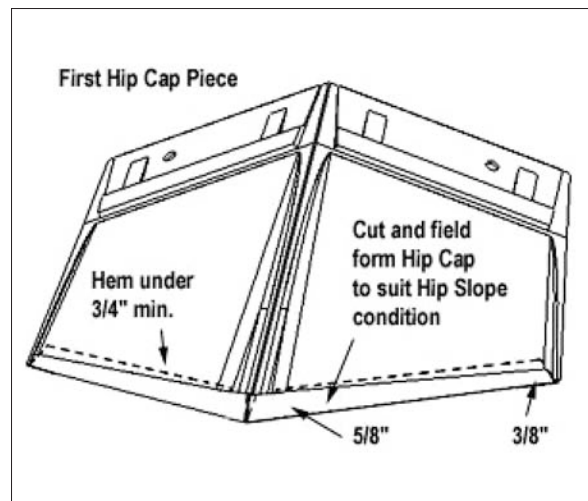

FIGURE 1-29 Custom Fabricated Hip Cap
1. Take the first piece of Hip/Ridge Cap and along the center, fold or crease as required to suit the roof or hip pitch. *See Figure 1-29.*